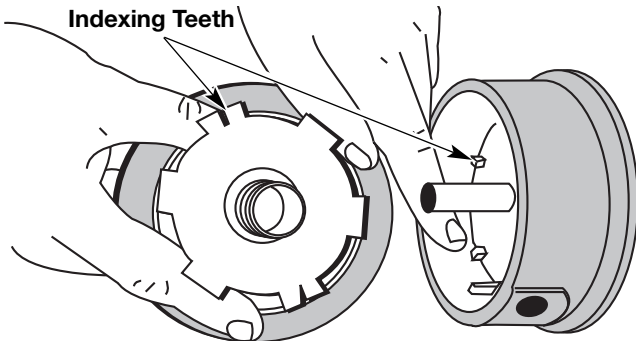

Fig. 13
5. Check the indexing teeth on the inner reel and outer spool for wear (Fig. 13). If necessary, remove burrs or replace the reel and spool.